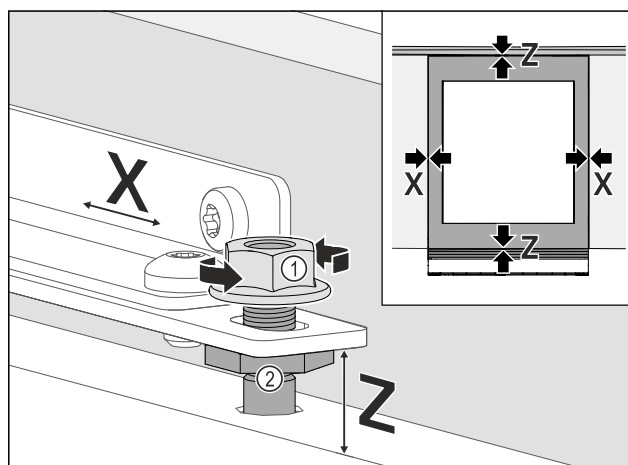

Fig. 76
- Align the unit door laterally: Loosen the lock nut Fig. 76 (1), move the unit door in X direction.
- Tighten the lock nuts Fig. 76 (1).
- Align the height Z and lateral inclination of the unit door: Set the adjustment bolt Fig. 76 (2).